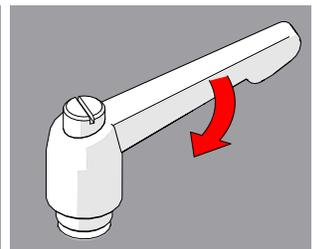

Fig. 35 - Tighten handle
3. Release the lever and utilize the new tightening position (Fig. 35).